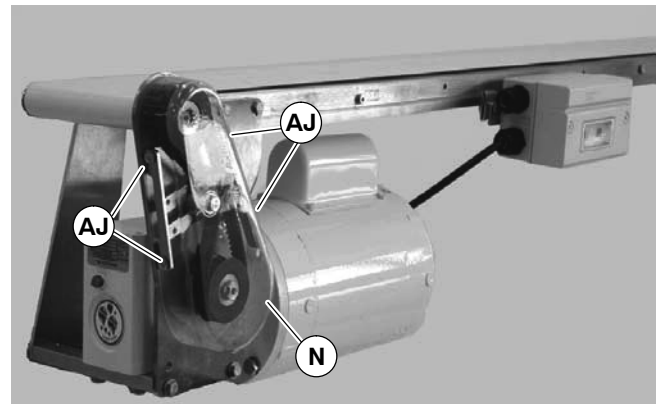

Figure 36
NOTE: Figures 36 through 45 shown gear reducer replacement procedure for a timing belt drive. Timing chain drive is similar except as noted.
- Loosen four (4) screws (AJ of Figure 36) and remove cover (N).